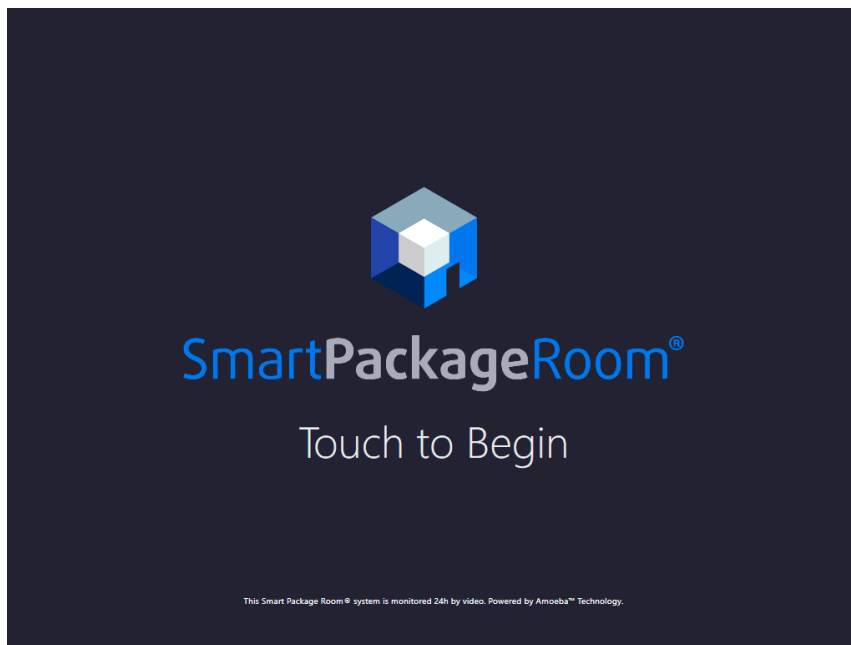

Figure 31: Touch to Begin screen
1. At the Smart Package Room kiosk, the Welcome screen appears (see Figure 31), the system recognizes a presence and automatically takes you to the sign-in screen, or you can **Touch to Begin**.